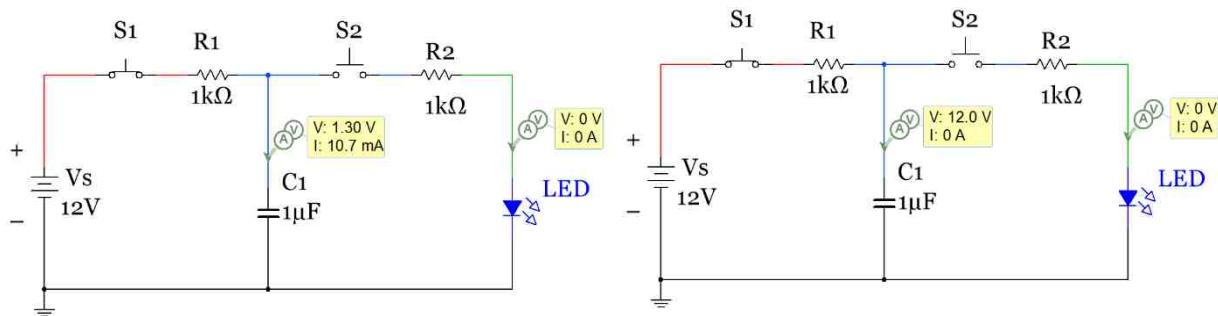
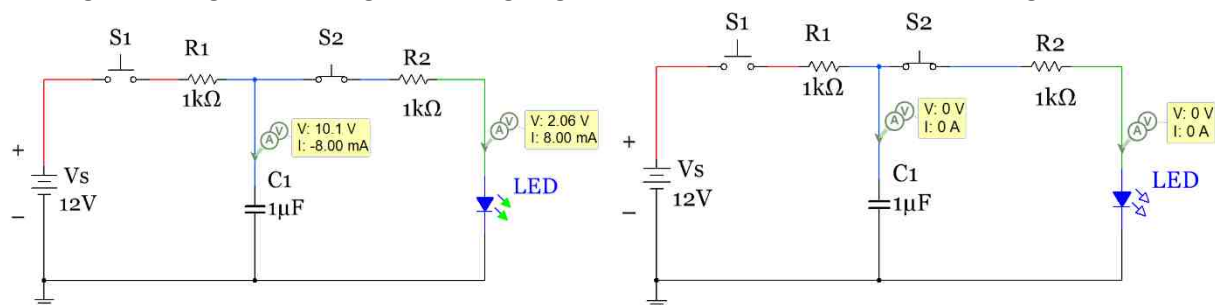

Figure 3.4: Charging the Capacitor in a RC circuit (Left – slightly charged, Right – fully charged)
Figure 3.5: Discharging a Capacitor across an LED (Left – barely discharged, Right – fully discharged)
When simulating capacitors in Multisim the zero initial condition is also made unless the capacitor is put in a circuit where it is charged to a non-zero voltage and a switch is pressed to release the voltage as shown in Figure 3.4. If the initial conditions are zero,  $v_C(t)$  can simply be determined numerically by summing the area under the  $i_C(t)$  curve. The current in equation 3.4 can also be determined numerically by dividing the change in voltage by the change in time, but this assumes  $i_C(t)$  is linear (which it isn't). Both  $i_C(t)$  and  $v_C(t)$  are exponential functions as shown in Section 3.5. However, if a small  $\Delta t$  value is selected it allows the linear approximation to be made for capacitors that are in their transient mode of operation during either the charge or discharge cycles. Table 3.3 shows an example of where a small  $\Delta t$  value is used and the linear assumption is made in a RC circuit. The result is a relatively small error when compared to Multisim simulation results that do not assume a linear approximation. Since DC circuits at steady state have a constant voltage across any component ( $\Delta V = 0$ ) the current through a capacitor is also forced to be zero due to equation 3.4 ( $i_C = C \cdot \Delta v / \Delta t$ ). However, in the transient region (before the voltage across a capacitor reaches steady state) the current through a capacitor is not zero. For example, if the voltage increases (approximated as linear) by 2 volts over 1 msec and the capacitor is a 1  $\mu\text{F}$  capacitor then the current at that point in the transient region would be:
This property of capacitors makes them well suited for applications where sudden voltage changes are undesirable such as smoothing filters, surge protectors, and ripple voltage removal in AC to DC rectifier circuits. The capacitor's charging and discharging cycles in a RC circuit are shown in Figures 3.4 and 3.5. These figures show a very common circuit. A practical example of this circuit is found in the flash circuit of a camera. When the switch is pressed to take a picture it charges a capacitor and when the switch is released the capacitor's stored energy is used to cause the light to flash.
Figure 3.4 shows two points in time of a capacitor being charged by a 12 V battery. The switches in these figures are normally open (NO) single pole single throw (SPST) push button switches, which are the same type that are used in the hands-on course project. Search for **PB\_NO** in Multisim to find them. When the switch S1 is pressed the capacitor begins to charge and the voltage increases from zero towards 12 V in an exponential manner (as described in section 3.5). The left circuit of Figure 3.4 shows that shortly after switch S1 is pressed the voltage across the capacitor is slightly above its initial value of zero (1.3V in Figure 3.4) and the current drops from a max value of 12 mA at  $t = 0+$  to 10.7 mA. Note:  $t = 0+$  is a way of denoting the time right after the switch is pressed. In the right circuit of Figure 3.4 it shows that as switch S1 is held down for a long time the capacitor reaches a steady state voltage of 12V (as described in more detail in section 3.6) and the current goes to zero. The current can be easily determined to be zero by looking at the  $\Delta V$  across the resistor. Recall:  $I_R = \Delta V/R$  so  $I_R = (12 - 12)/1000 = 0$
In the circuit in Figure 3.4 the capacitor is in the charging phase (or “store” phase) because switch S2 is never pressed so the right minor loop in the circuit is never engaged and no current ever flows through it so it has no effect on the circuit. In the discharge phase (or “release” phase) in Figure 3.5 switch S1 is now left open and is disengaged from the circuit so the capacitor is no longer being charged, but since the **voltage across a capacitor cannot change instantaneously** it will act like a battery in the release circuit that has a rapidly declining voltage. In the left circuit of Figure 3.5 after pressing switch S2 for a short amount of time the voltage across the capacitor begins to drop (shown as 10.1V in Figure 3.5). The current is initially (at  $t = 0+$ ) equal to  $I_R = \Delta V/R = (12 - 2)/1000 = \sim 10$  mA
The circuit shown in Figures 3.4 and 3.5 is called a **store and release problem** where a storage device such as a capacitor or inductor stores up energy and then a switch is used to release the energy in another part of the circuit. In section 3.5 DC transient analysis techniques are used to determine the voltage and current at any moment in time, but at this point this type of circuit is only shown to give background of how a capacitor works during its charging and discharging cycles. When a DC circuit is in the transient region where voltage and current are constantly changing it helps to look at the instantaneous current and voltage at different moments in time because at each one of those moments it acts like a DC problem where current and voltage are constant values and equations like Ohm’s Law, KVL, and KCL can easily be used to solve for unknown variable in the circuit. Looking at the instantaneous current and voltage will also help you understand AC circuits better because they also have continually changing currents and voltages. When looking at the instantaneous values you are in effect freezing time at any point while the capacitor is charging or discharging. At that moment in time the circuit is a simple DC problem. The values of different components in the circuit in Figures 3.4 and 3.5 are given in Table 3.2 to demonstrate this point. When the time is stated as **0-** it means “**right before a switch is pressed**” and when the time is stated as **0+** it means “right after a switch is pressed”.
**Table 3.2) Instantaneous Voltage and Current Values for Components in Figures 3.4 and 3.5.**
The  $i_L(t_0)$  term in equation 3.9 is the initial current through the inductor (or the initial condition). It is usually assumed to be zero and in this document we will always make this assumption. Unlike capacitors the inductor used in part 3 doesn't need to be manually discharged because when the voltage source is removed from the inductor the current will quickly dissipate. For this reason, using 2 separate SPST (**PB\_NO**) switches in a store/release circuit (like was used for the RC circuit in Figures 3.4 and 3.5) cannot be used because as soon as switch S1 is opened the inductor current would dissipate. Therefore, a **SPDT** switch is used to immediately switch between the store and release (charging and discharging) circuits. When simulating inductors in Multisim the zero initial condition is also made ( $i_L(0) = 0$ ) unless the inductor is put in a circuit where it is charged to a current and a **SPDT** switch is changed positions to release the current as shown in Figure 3.9. If the initial conditions are zero,  $i_L(t)$  can simply be determined numerically by summing the area under the  $v_L(t)$  curve. The current in equation 3.8 can also be determined numerically by dividing the change in voltage by the change in time, but this assumes  $v_L(t)$  is linear, which it isn't (as previously mentioned  $i_L(t)$  and  $v_L(t)$  are both exponential functions of time, as shown in Section 3.5). If a small  $\Delta t$  is selected it allows the linear approximation to be made for inductors that are in their transient mode of operation during the charge or discharge cycles as shown in Table 3.4. Since DC circuits at steady state have a constant current through any component ( $\Delta i = 0$ ) the voltage across an inductor is also forced to be zero due to equation 3.8 ( $v_L = L \cdot \Delta i / \Delta t$ ). However, in the transient region (before the voltage across the inductor reaches steady state) the voltage across the inductor is not zero. For example, if the current increases (approximated as linear) by 1 mA over 2 msec and the inductor has a value of 4 mH then the voltage at that point in the transient region would be:
The data in Table 3.2 for the RC circuit in Figure 3.4 is recreated in Table 3.5 for the RL circuit in Figure 3.9. For consistency when using the constant drop model for a forward biased LED, the LED voltage is listed as  $\sim 2V$ . However, since 1.2 A flows through the release loop and the actual LED voltage at that current would be closer to 2.5V (if the LED even survived that high of current) a significant error is seen due to the difference between the actual and modeled LED voltage. LEDs are typically rated for much lower currents (i.e. 20 mA for the LEDs used in the project). The inductor voltage at time = 0+ in the release circuit is equal to  $\sim -14$  V. This value can be calculated via a KVL going clockwise around the loop as follows:  $-V_{L1} - V_{R2} - V_{LED} = 0 \rightarrow V_{L1} = -12 - 2 = \mathbf{-14V}$